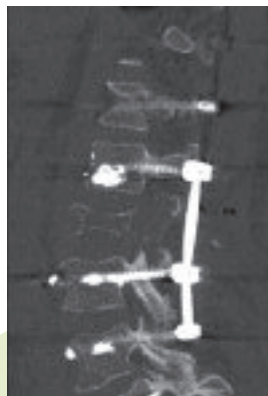
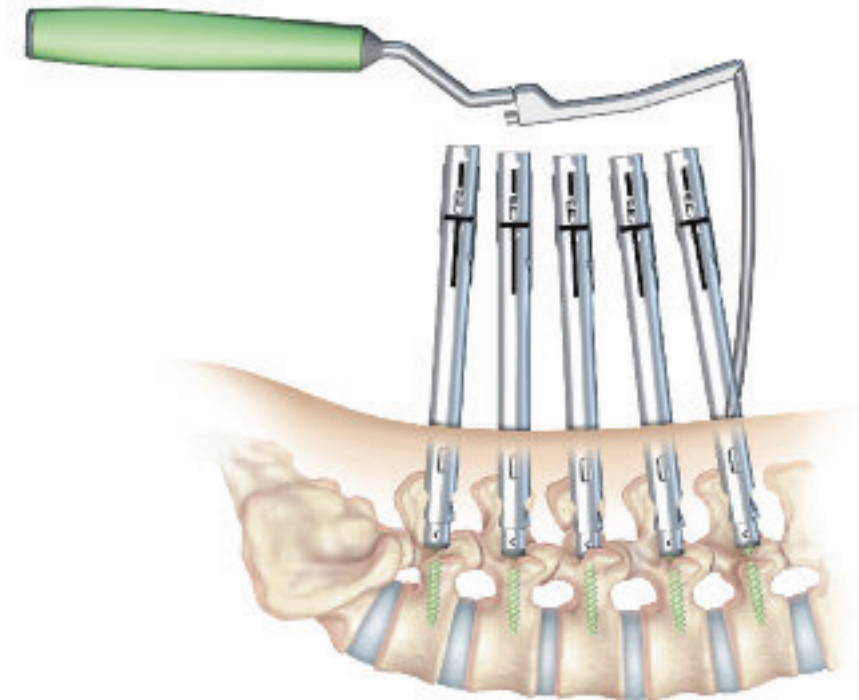

Figure 3: Lateral CT Scan
Figure 4: A-P Radiograph
- Post-op imaging showed full height restoration at the L2 level (Figure 3) and good sagittal and coronal alignment (Figure 4)